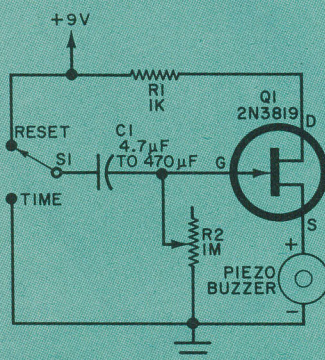

Fig. 4. Schematic of a single-FET timer circuit.
**A FET Timer.** When faced with the need to design a timer, I inevitably use a 555 or its CMOS counterpart, the 7555. For brief timing durations of a few minutes, the simple FET circuit in Fig. 4 may be a better choice. Certainly, it's simpler, easier to build, and less expensive.
**Power MOS Timers.** VMOS, TMOS, DMOS, and other MOSFET power transistors can be used to make more effective, longer duration timing circuits than the simple FET version in Fig. 4. Thanks to the ultra-high-impedance input of the MOSFET, time delays of up to half an hour or even longer are possible. And, again, the necessary circuitry is simpler than an IC version using the 555, 7555 or similar timer chips.